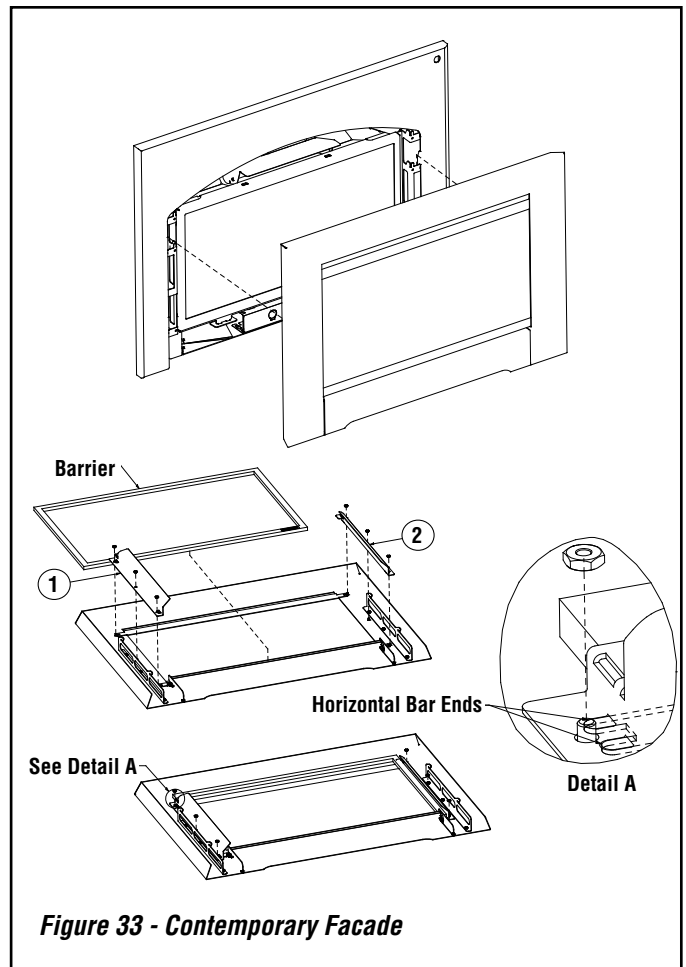

Figure 33 - Contemporary Facade
Contemporary Facade (see *Figure 33*)
2. Place sight obstructers back over the threaded studs taking note that the upper and lower horizontal bar ends line up with grooves in sight obstructers (see *Detail A* in *Figure 33*).